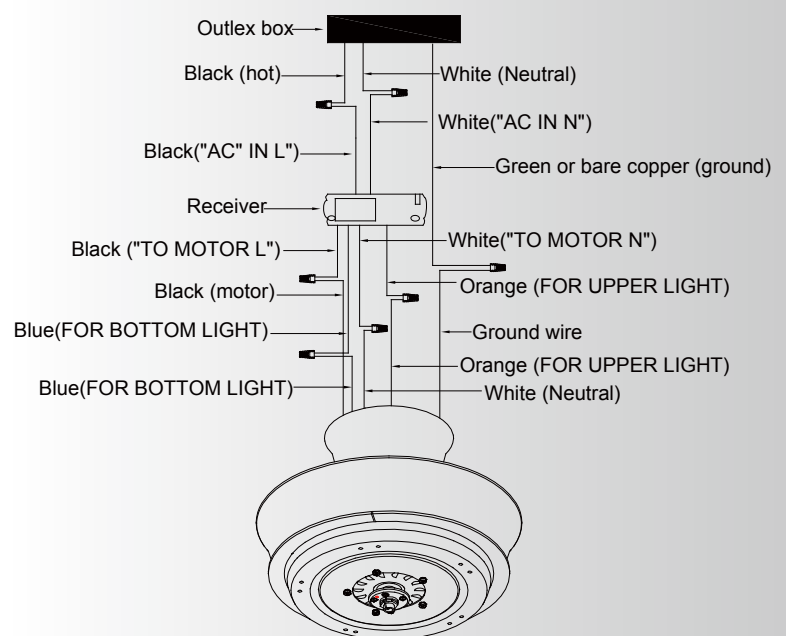

Fig. 14
Step 2. Motor to Receiver Electrical Connections: Connect the BLACK wire from the fan to BLACK wire marked "TO MOTOT L" from the receiver. Connect the WHITE wire from the fan to the WHITE wire marked "TO MOTOR N" from the receiver. Connect the BLUE wire from the fan to the BLUE wire marked "FOR BOTTOM LIGHT " from the receiver. Connect the ORANGE wire from the fan to the ORANGE wire marked "FOR UPPER LIGHT " from the receiver. Secure all the wire connections with the plastic wire nuts provided. (Fig. 14)
Step 3. Remote Receiver to Outlet Box Electrical Connections: Connect the BLACK (hot) wire from the ceiling to the BLACK wire marked “AC in L” from the receiver . Connect the WHITE (neutral) wire from the ceiling to the WHITE wire marked “ AC in N” from the Receiver . Secure the wire connections with the plastic wire nuts provided . (Fig. 14)
Step 4. If your outlet box has a ground wire (green or bare copper) connect it to the fan ground wires : otherwise connect the hanging bracket ground wire to the mounting bracket. Secure the wire connection with a plastic nut provided. After connecting the wires, spread them apart so that the green and white wires are on one side of the outlet box and black and blue wires are on the other side. (Fig. 14)